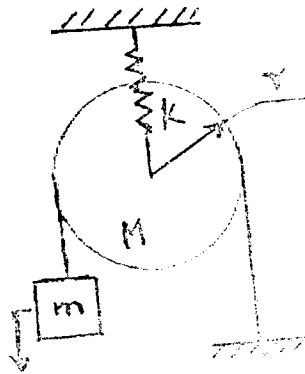

Fig. Q 1(b)
- b. Determine the natural frequency of the system shown in Fig. Q 1(b) by energy method. (11 Marks)